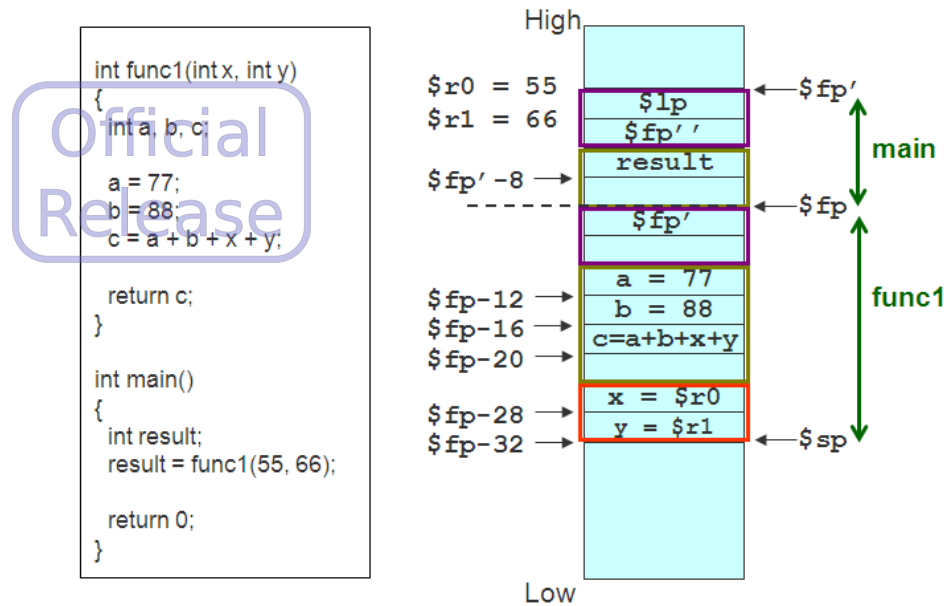

Figure 6. ABI2 Sample of Calling a Function with Arguments
- A case of calling a function with arguments: Figure 6 shows the necessary blocks of each stack frame.